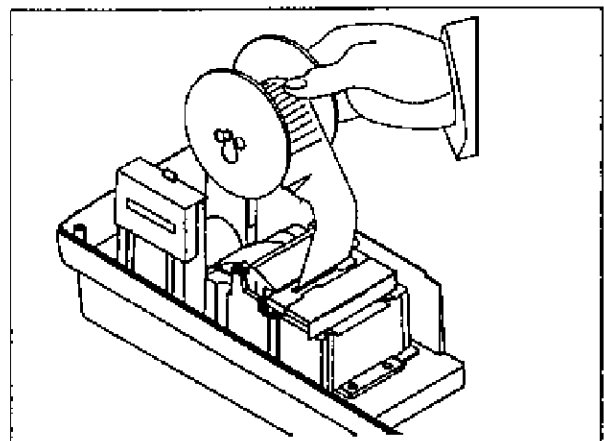

Fig.9
5. Cut the paper after the end of printing (See Fig.9).